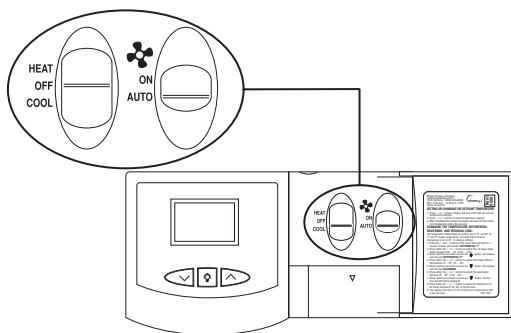

Figure 2
2. Place HEAT-OFF-COOL in OFF position (Figure 2).
3. Place ❄️-ON-AUTO switch into AUTO position (Figure 2).